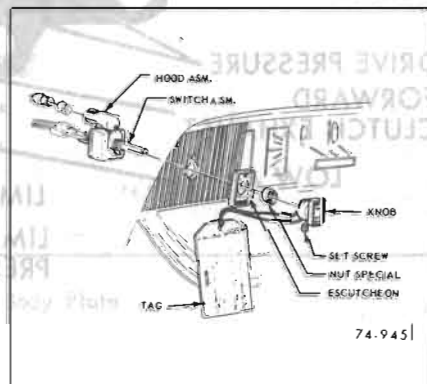

Figure 75-935—Cruise Control Engagement Switch Installation
**a. Removal—Refer to Figure 75-935**
- b. Installation—Refer to Figure 75-935**